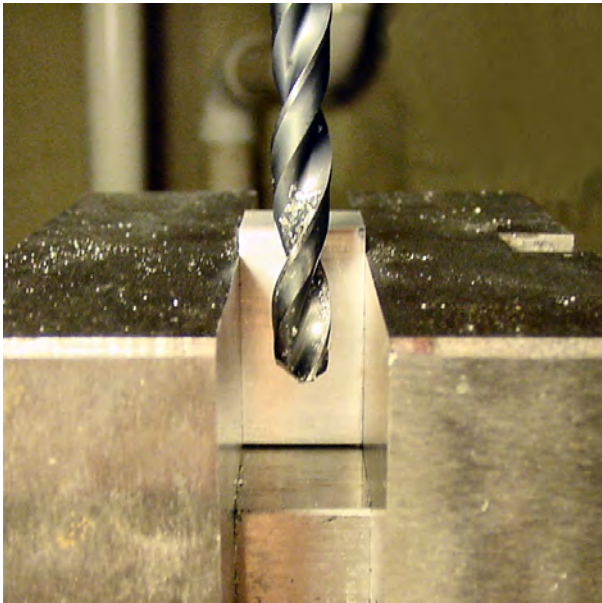

Figure 3-16. Side view of the vise. The drill is lowered beside the fixture block to determine the desired depth.
4. Lower the drill beside the fixture block until the drill body reaches the desired depth (see Figure 3-16). In this example, it's about 12.5 mm. Make sure to measure to where the widest circumference of the drill first appears. This is because the drill point makes a conical hole, which is fine for chips, but it won't fit the rod to that depth.